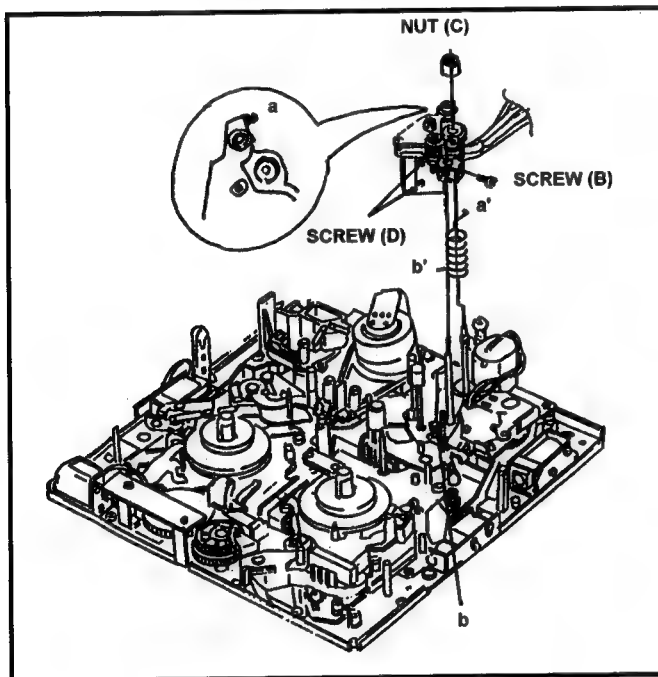

Fig. 6-2-1
3. Remove the 2 screws (A). and disconnect the 2 connectors P1 on the A/C Head I/F P.C.Board and P30 on the Mech I/F P.C.Board, and then remove the A/C Head from the A/C Head Plate.
4. Remove 2 screws (D) to remove the Shield Cover as shown in Figure 6-2-1.